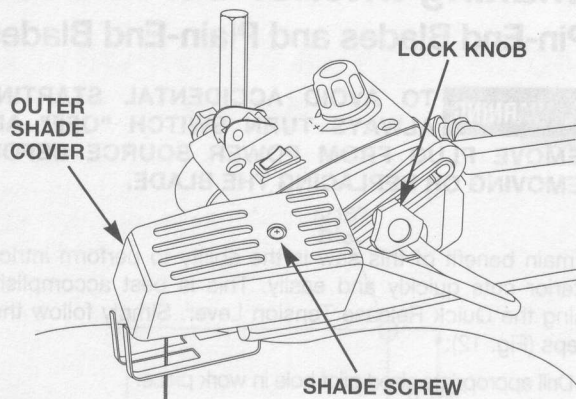

FIG. 9
2. Loosen lock knob, slide lamp to desired position and tighten lock knob (Fig. 9).
4. Replace bulb and reassemble the shades (Fig. 9).